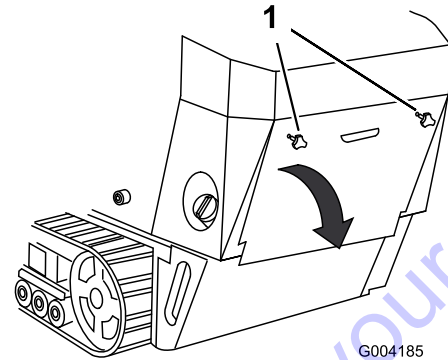

Figure 25
1. Unscrew the 2 hand knobs securing the rear-access cover to the machine (Figure 25).
2. Tilt the rear-access cover down and remove it to access the internal components (Figure 25).